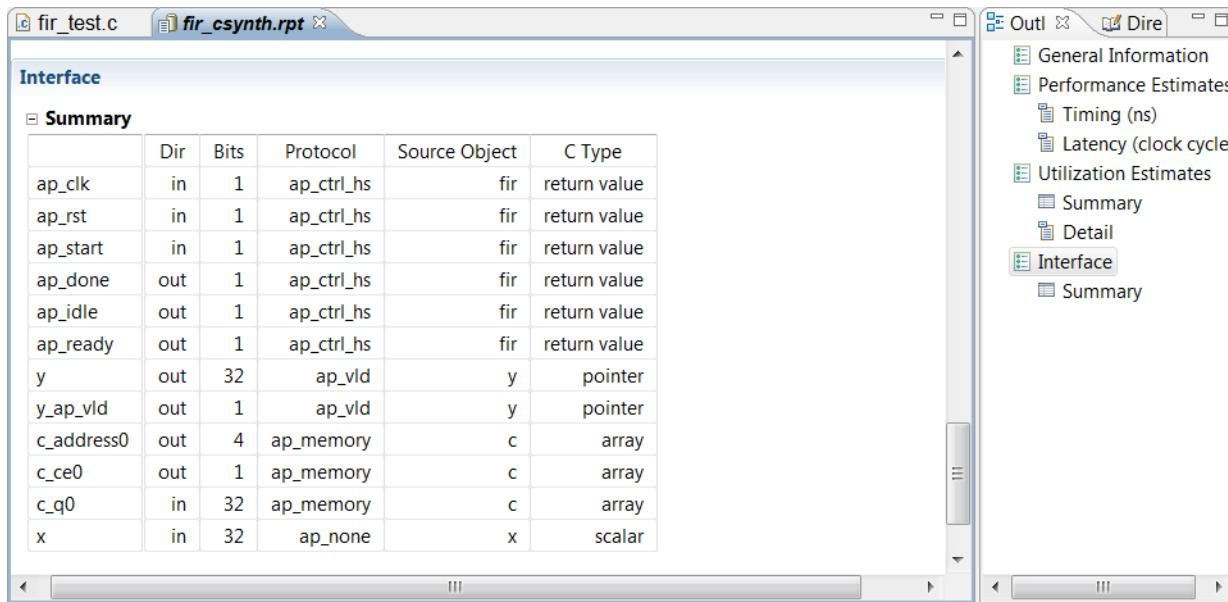

Figure 2-13: Interface Report
- In the Outline tab, click **Interface** (Figure 2-13).